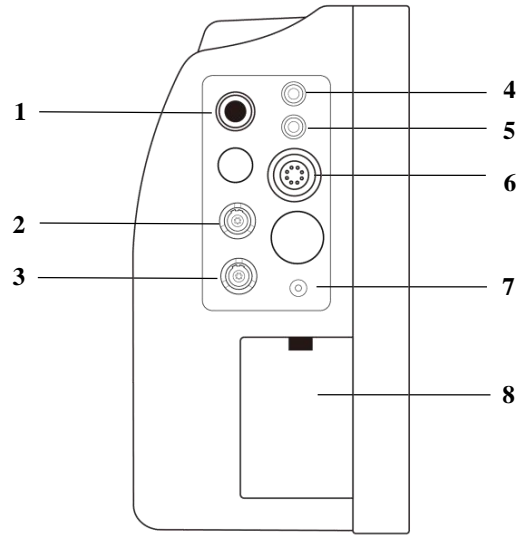

Figure 1-4 Left Side
The Monitor is equipped with rechargeable batteries. The battery in the monitor can automatically recharge when connected to AC INPUT until it is full. A symbol “” is displayed on the upper left quarter of the screen to indicate the status of recharging, in which the YELLOW part represents the relative electric energy of the battery. And, if the battery is not installed in the monitor, battery state will be displayed as “” to indicate that no battery is available. Under connectors to patient cables there are battery slots with cover. See Figure 1-4 Battery Slot Cover.
- Apply the power line provided with the monitor. Plug the power line to INPUT interface of the monitor(Socket ⑥ in Figure 1-4). Connect the other end of the power line to a grounded 3-phase power output.